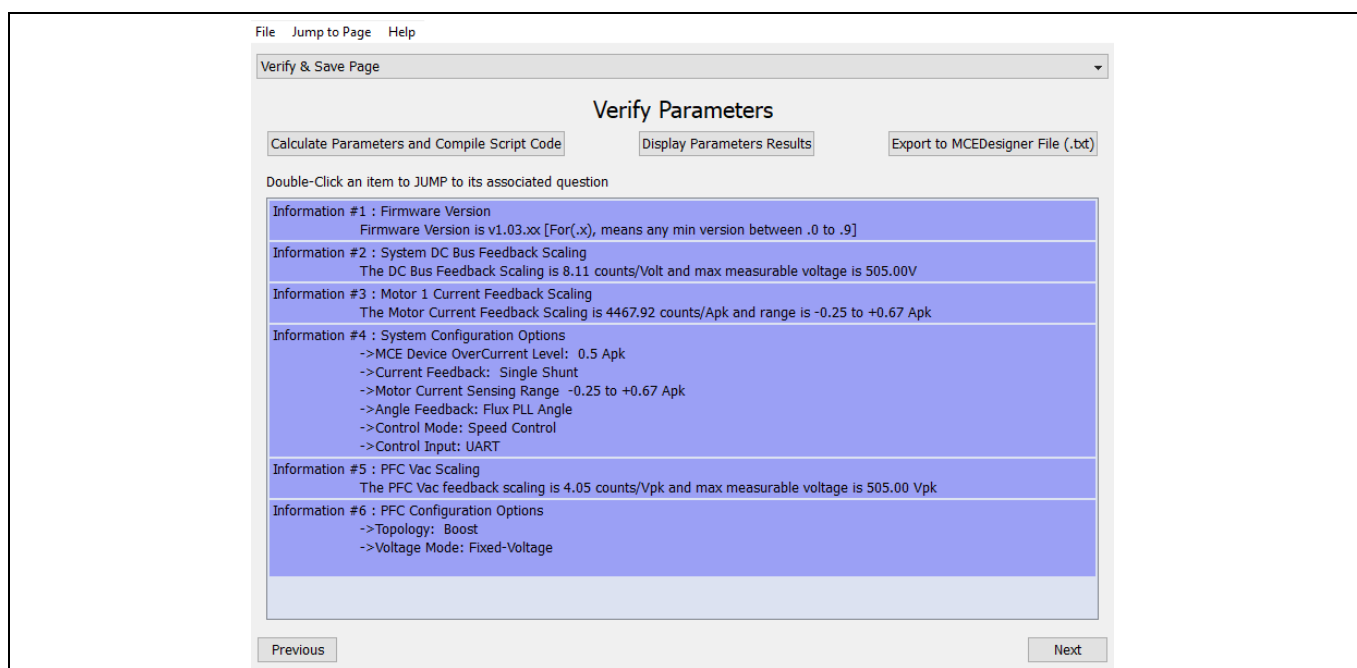
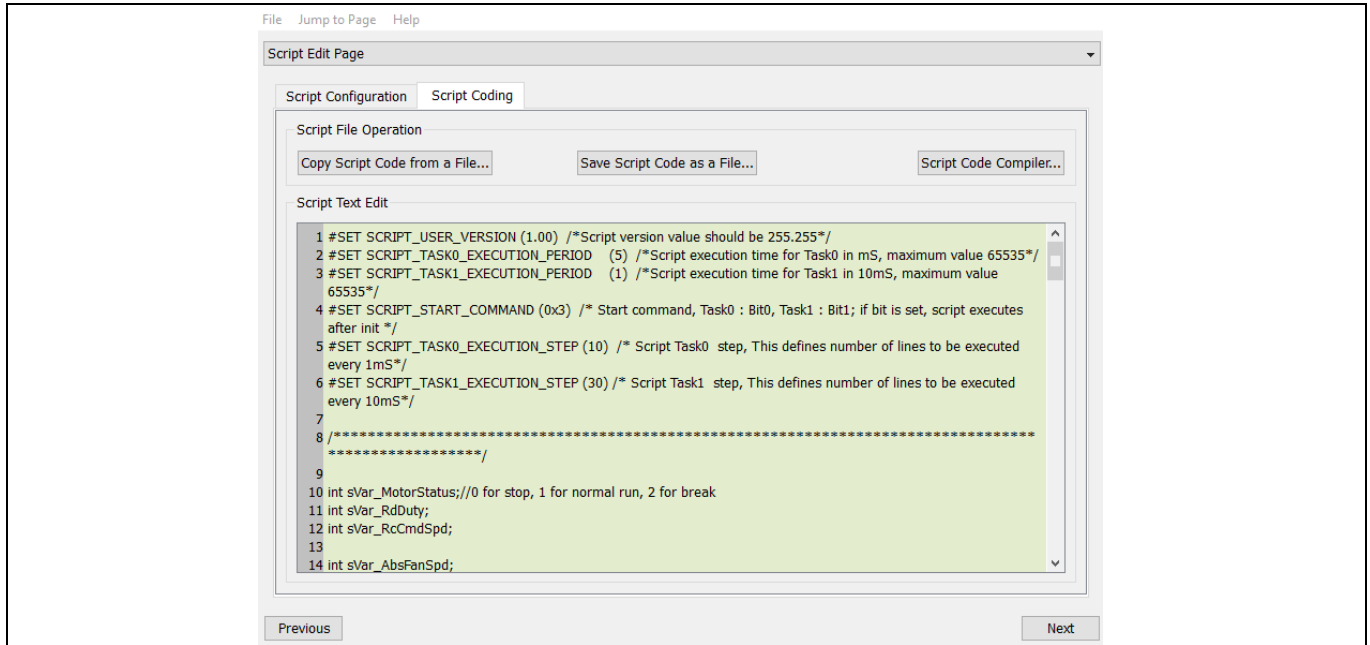
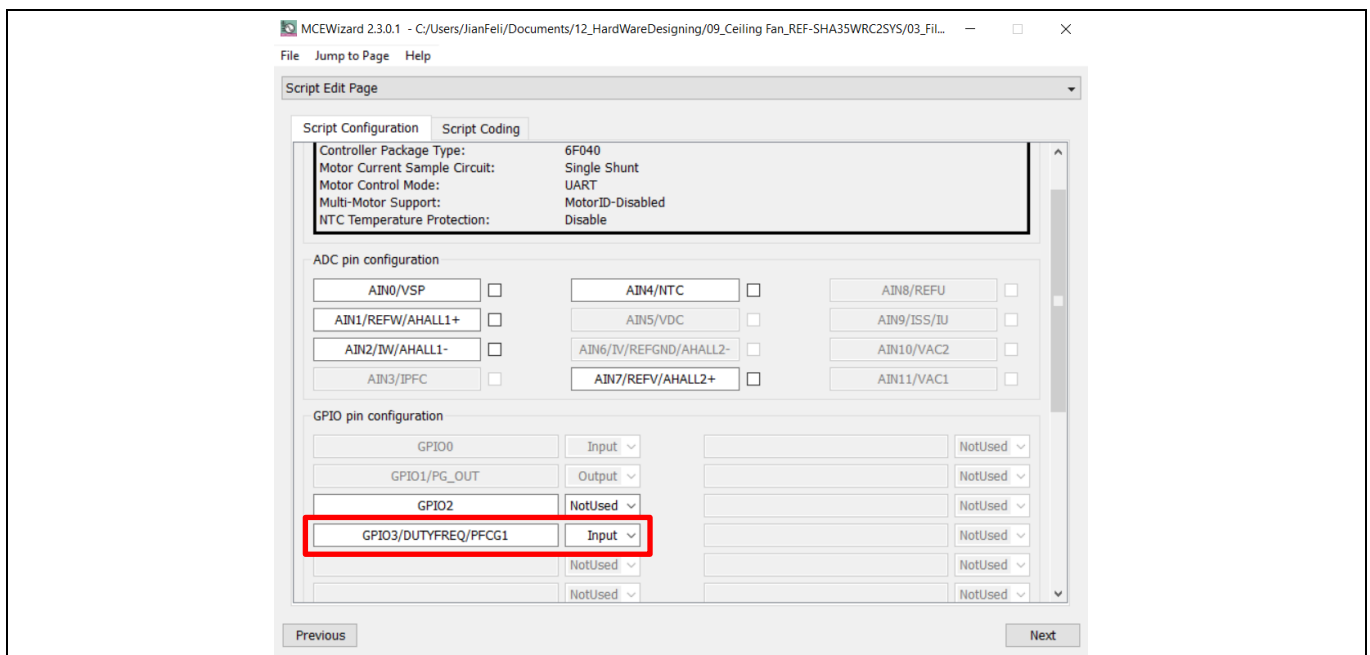

Figure 9 Verify and save page (script-enabled)
Figure 13 Script edit page
Figure 14 Pulse input pin definition for remote infrared control
4. The script function is enabled by default in the provided MCEWizard file (.mc2). Click menu "Jump to page > Script" and click label "Script Coding", then you can edit the script code according to the properties of motor you used as shown in Figure 13. For more information regarding to script editing, please refer to the MCE reference manual^[6]. About how to change script to adapt customer motor, please refer to Section 2.4. Then click menu "Jump to page > Verify & Save Page", go to "Verify & Save Page" page and click on the "Calculate Parameters and Compile Script Code" key to calculate parameters and compile script code. If no errors are reported, then save the drive parameters set in your project directory by clicking "Export to Designer file (.txt)" as shown in Figure 9. If errors are detected, double-click on the error message (highlighted in RED) and adjust the related parameters. The saved drive system parameter file will later be used for programming.
3. Click menu “Jump to page > Option” and enable script function as shown in Figure 10. Copy the script code for remote infrared control in the Code Listing 1 to “Script Edit Page > Script Coding” in the MCEWizard as shown in Figure 13. For more information regarding to script editing, please refer to the MCE reference manual^[6]. About how to change script to adapt customer motor, please refer to Section 2.4. Then define pulse input pin for remote infrared control as shown in Figure 14, and please define the pin “GPIO13/DUTYFREQ/PFCG1” as input for this reference board. Then click menu “Jump to page > Verify & Save Page”, go to “Verify & Save Page” page and click on the “Calculate Parameters and Compile Script Code” key to calculate parameters and compile script code. If no errors are reported, then save the drive parameters set in your project directory by clicking “Export to Designer file (.txt)” as shown in Figure 9. If errors are detected, double-click on the error message (highlighted in RED) and adjust the related parameters. The saved drive system parameter file will later be used for programming.
- Once the firmware has been programmed, and only a new parameter file has to be programmed, follow the same instructions given in Section Figure 14. In this case, the firmware programming is no longer needed, and you can select the first option “Program Parameters.”